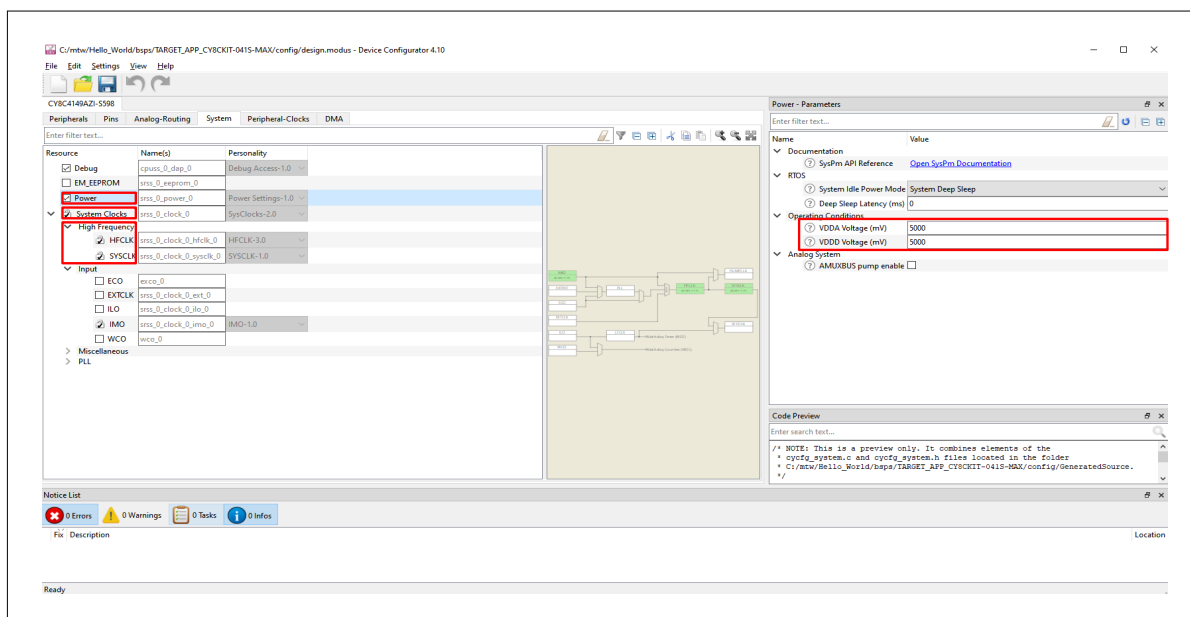

Figure 24 Configuring System Settings
- Other resources like power, frequency and clock can be configured in the System tab of the Resource Categories Pane. Default Power settings are shown in Figure 24. For this design, no further changes are required.